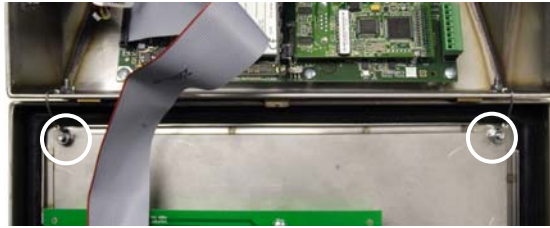

Figure 2-7: Ground Strap Attachment Locations
2. Loosen and remove the two nuts securing the two metal cables (Figure 2-7) that hinge the front cover to the rear housing.